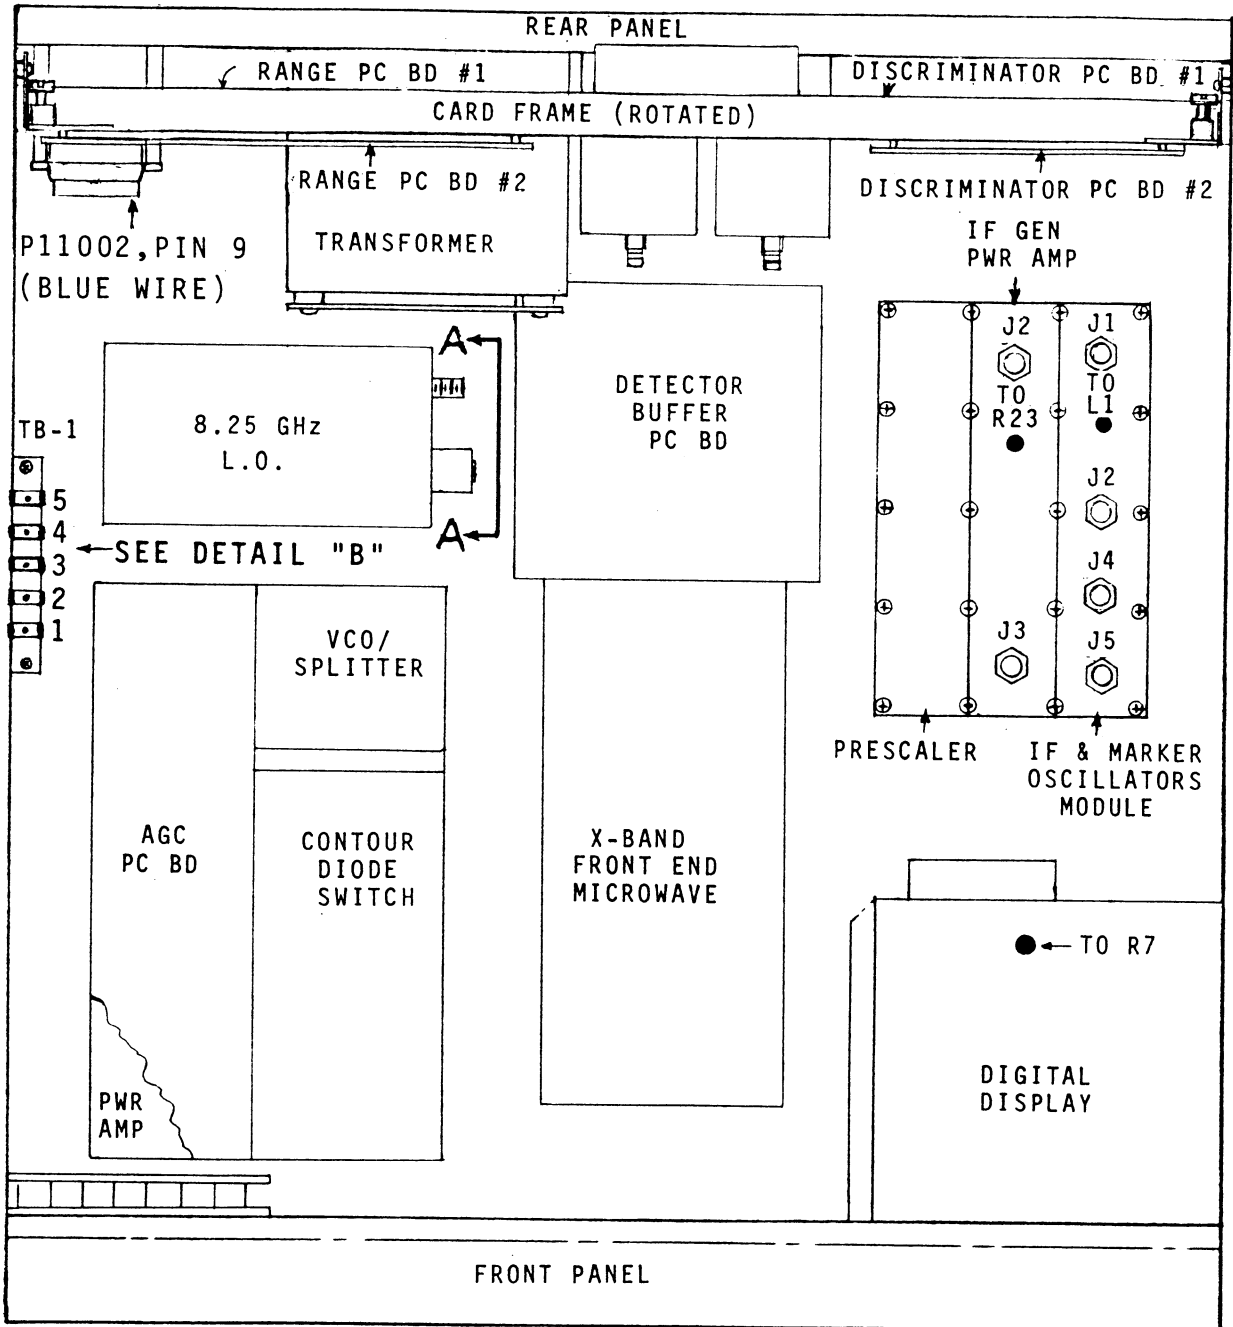

Figure 3-1 RD-301 Internal Structure
1. Use Digital Voltmeter and Oscilloscope to measure and record voltages and ripple voltages at Test Points listed below (see Figure 3-1 Detail "B" for location of Test Points).
3.2.4b 8.25 GHz L0 (See Figure 3-1, View "A-A")
2. Disconnect coaxial cables from J-2, J-4 and J-5 of IF and MKR Oscillator Module (Figure 3-1).
6. Press DISPLAY MKR Switch (14) and set MKR FREQ Control (12) full cw.
10. While pressing DISPLAY MKR Switch (14), rotate MKR FREQ Control (12) completely ccw. Verify Frequency Counter reading is between 17 and 19 MHz (no adjustment available).
2. Connect Frequency Counter to J-4 on IF and MKR Oscillator Module (Figure 3-1).
4. Apply power to RD-301. Select IF HI on RF/IF MODE (10).
5. Rotate outer knob (coarse) of MNL FREQ Control (8) cw to maximum position.
7. Rotate MNL FREQ Control (8) ccw and adjust R37 on AGC PC Board to -2.0 V.